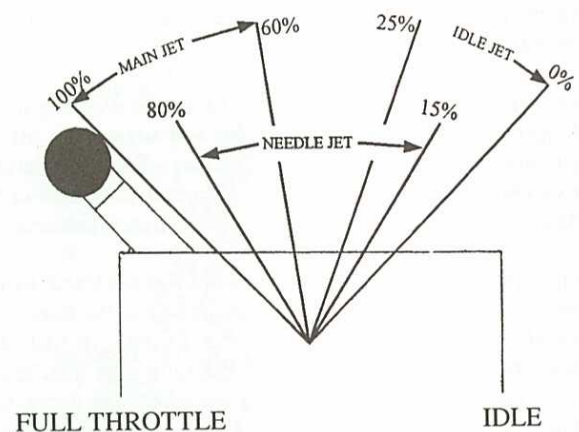

FIGURE 12
CARBURETTOR TROUBLE SHOOTING: Only two types of trouble occur with any carburettor (1) those that creep gradually and (2) those that show up instantly. The ones that occur instantly are easy to locate through a logical process of elimination. Even the troubles that come upon us gradually can be pinpointed if we pay close attention to what the symptoms are telling us. Locating the exact area of malfunction becomes a relatively easy task if we always think in terms of AIR : FUEL. All possible carburettor faults have to be one or the other, or both. (Figure 12) provides a general idea of component control relating to throttle position.